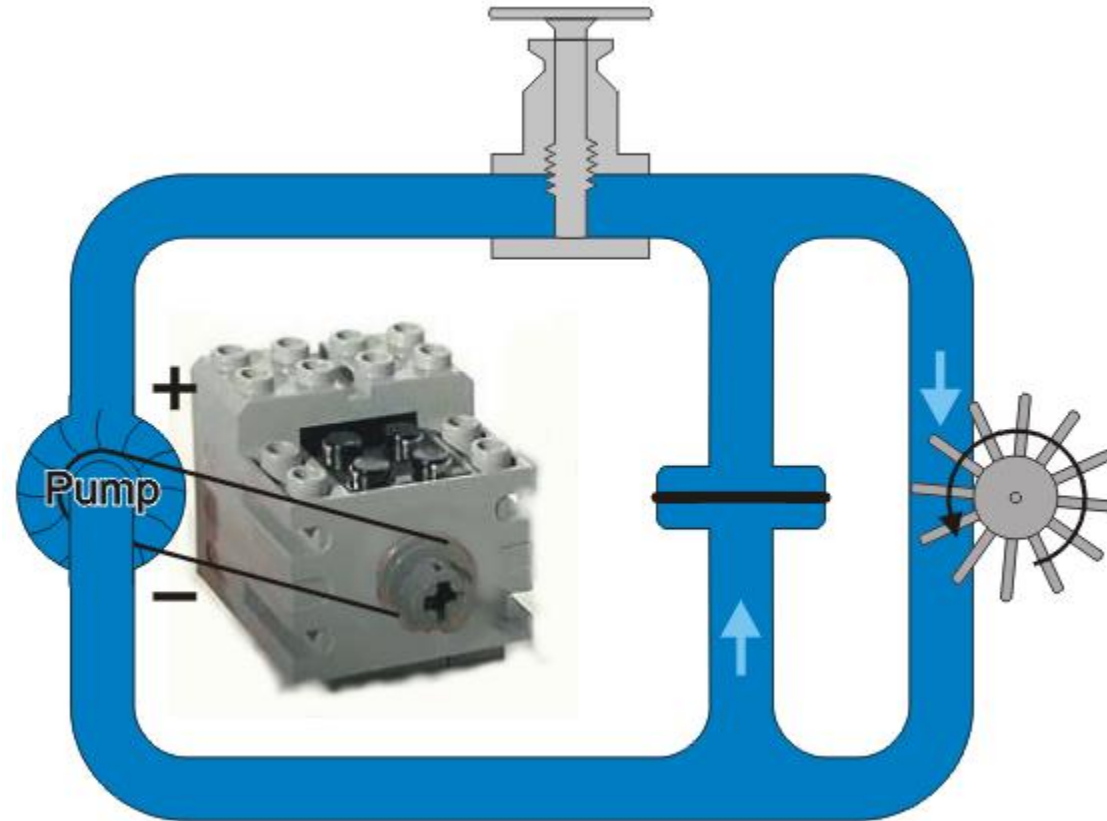

Fig 23: With the valve shut, the water is forced to flow up the first pipe.
- If the valve is shut, the wheel is still turning and now it pushes the water up the pipe with the membrane as shown in **Fig.23**.